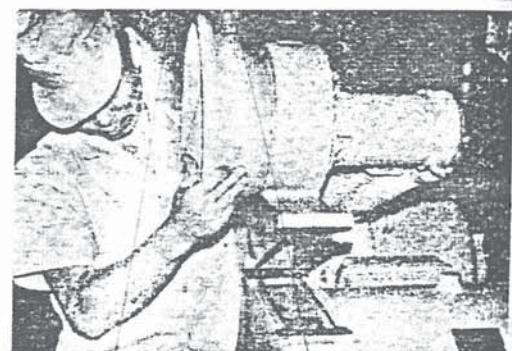

Fig. 8-3
- b-3) Remove the mount fan from the motor. (GGF Type: with mount fan) (Fig. 8-3)